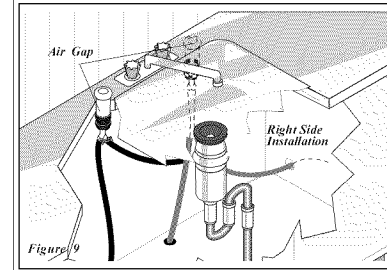

Figure 9
3. If you connect to a sink trap, local codes may require you to install an air gap kit, (not included). The drain hose will be routed from dishwasher to air gap inlet as shown in Figure 9. An air gap kit is available from a plumbing supply store. (If the drain hose is installed through the floor, an air gap is necessary).